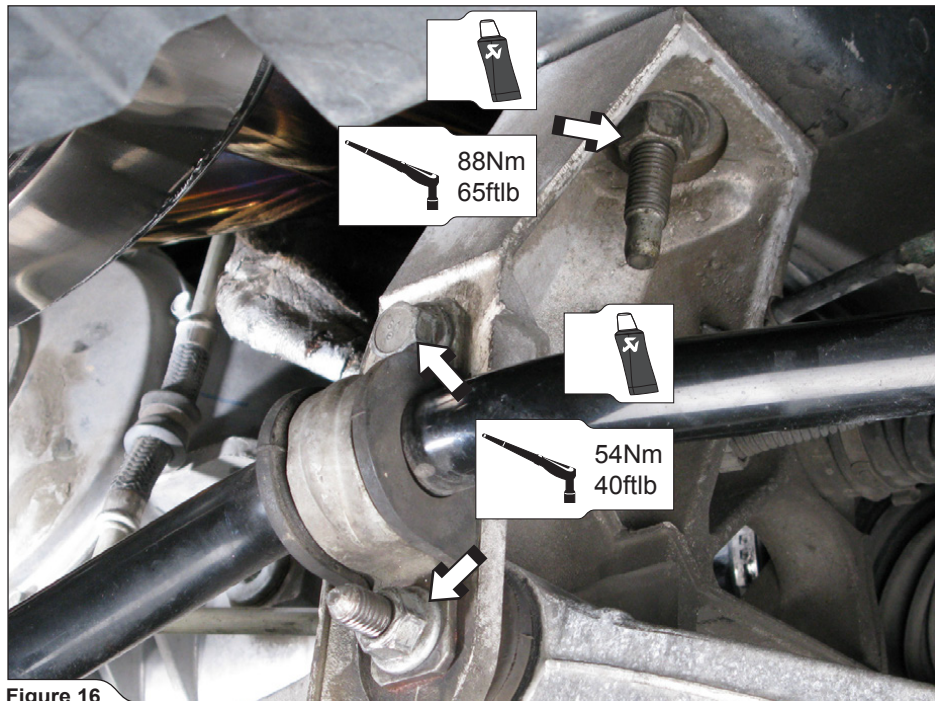

Figure 16
6. **For Slip-On and Evolution:** tighten the rear control arms brackets and drag link on both sides of the vehicle, to specified torques (**Figure 16, 17**).